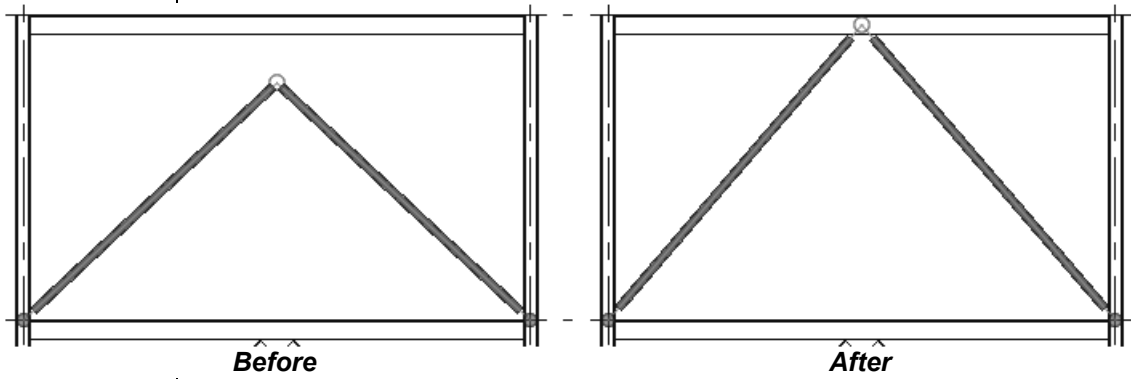

Figure 7–23
8. Drag the circular control up to the beam above it, as shown in Figure 7–23.